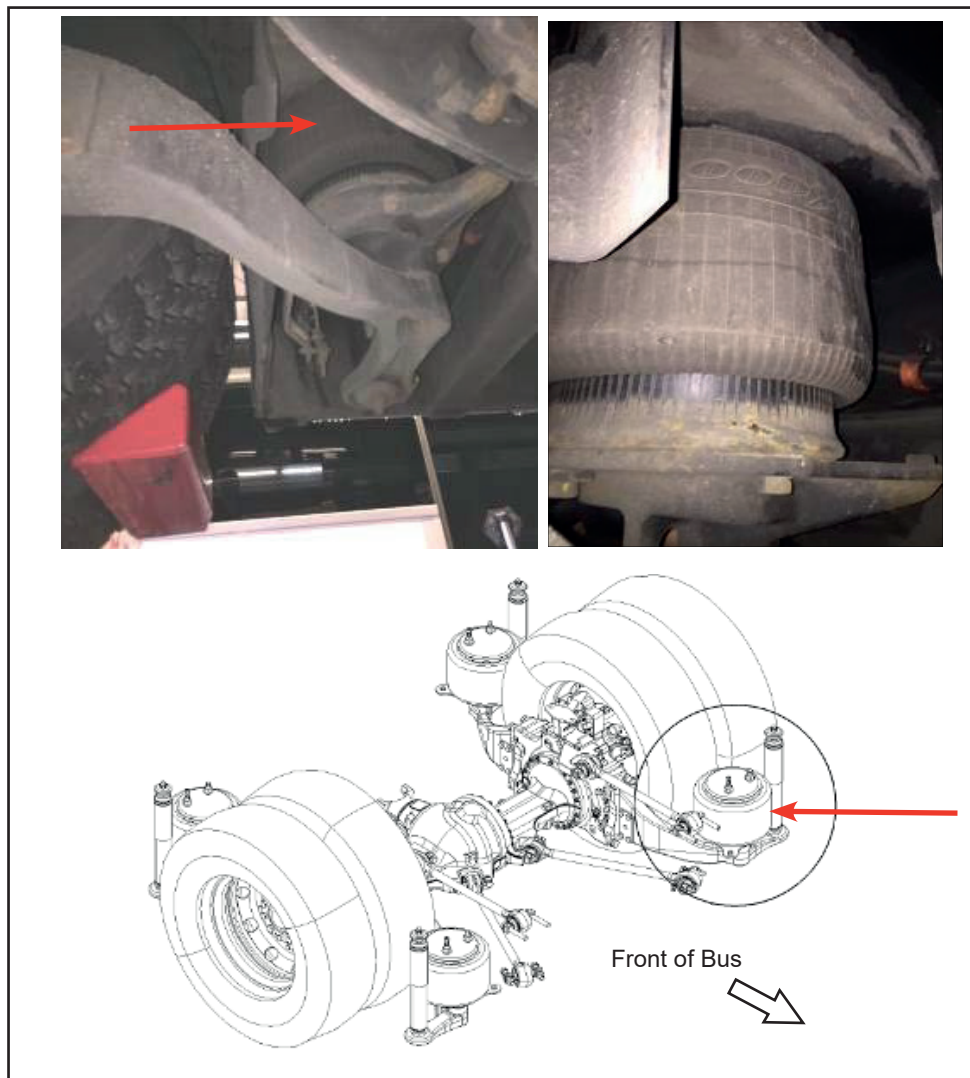

Figure 2 - Location of Rear Airbag
- 1.9. Locate the rear left air bag in front of the rear axle (See Figure 2).